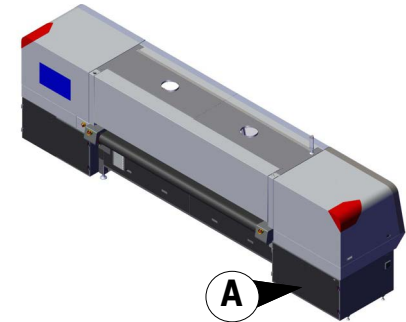

Figure 6-8 Printer Rear View
1. Open the waste compartment doors, Figure 6-8 location (A).